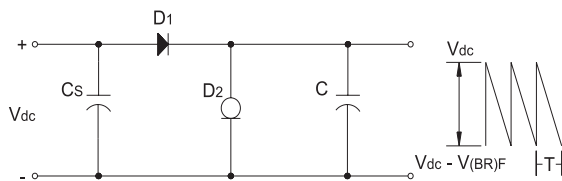

Figure 18. Negative-Going Ramp
**Sawtooth Generator**—The CLD can be used to produce a very linear sawtooth or ramp generator. The negative and positive going ramps are shown in Figures 18 & 19, respectively.